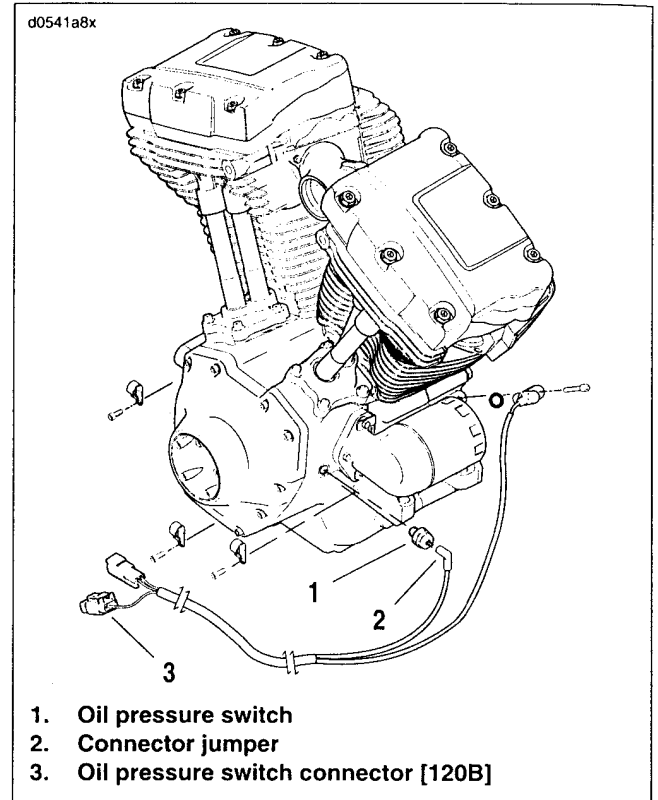

Figure 8-66. Oil Pressure Switch
See Figure 8-66. The oil pressure switch monitors oil pressure in the crankcase. If the oil pressure drops below 3 psi (20.6 kPa), the oil pressure switch is tripped and illuminates the low oil pressure indicator light. The oil pressure switch is located on the right side of the crankcase.
1. See Figure 8-66. Remove connector jumper (2) from oil pressure switch (1).
2. See Figure 8-66. Install oil pressure switch (1) to crankcase.
4. Attach connector jumper (2) to oil pressure switch.